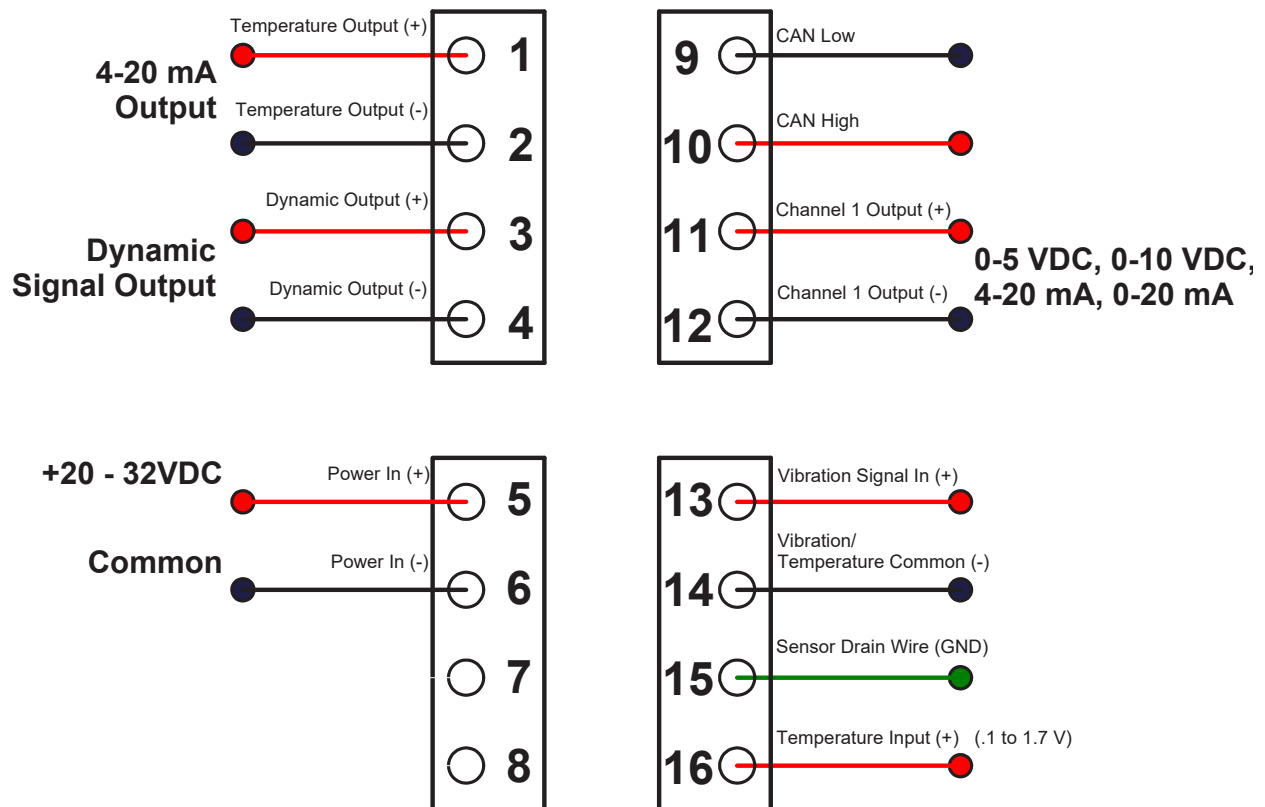

Figure 1. Signal Conditioner Electrical Wiring Diagram for Single Channel IEPE Accelerometer Input, with Temperature
2. For single channel accelerometer input connection, wire the sensor leads to 13(+), 14(-), and 15(shield drain wire) as shown in Figure 1. If using a TA series sensor, the temperature out lead is attached to terminal 16.